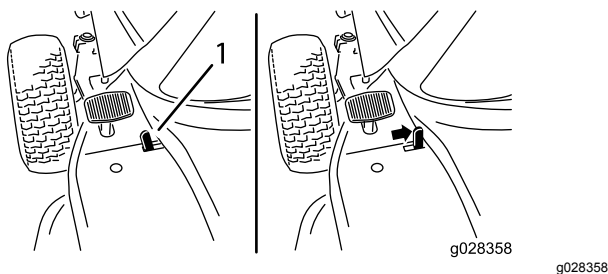

Figure 5
2. Move the parking brake lever to the right (Figure 5).
2. Move the parking brake lever to the left (Figure 5).